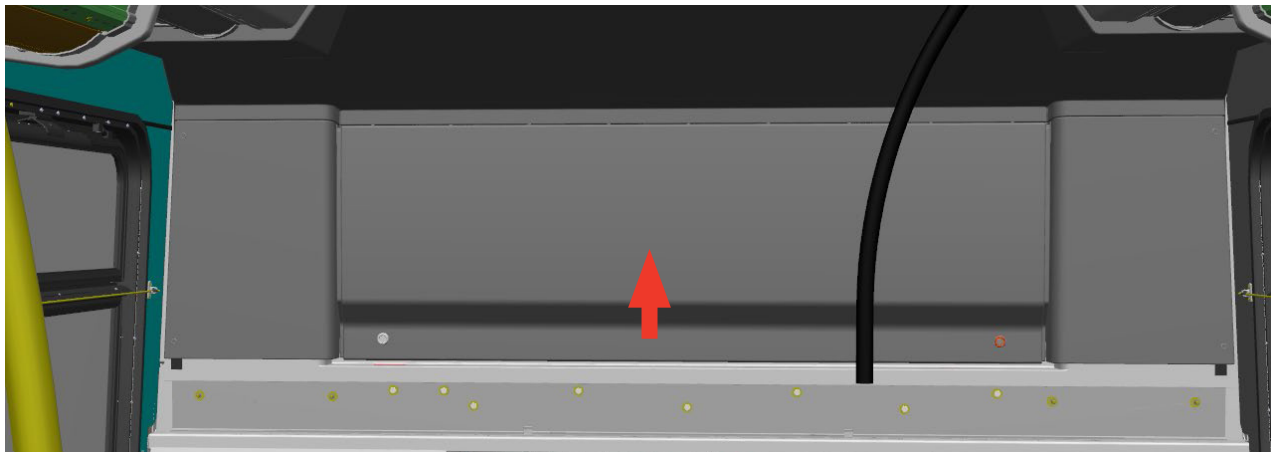

Figure 1 - Bus Interior Back Panel Location
- 1.3. Open the interior back panel (see figure 1) and locate the circuit breaker of the engine fan. Refer to the table below to locate the circuit breaker position.